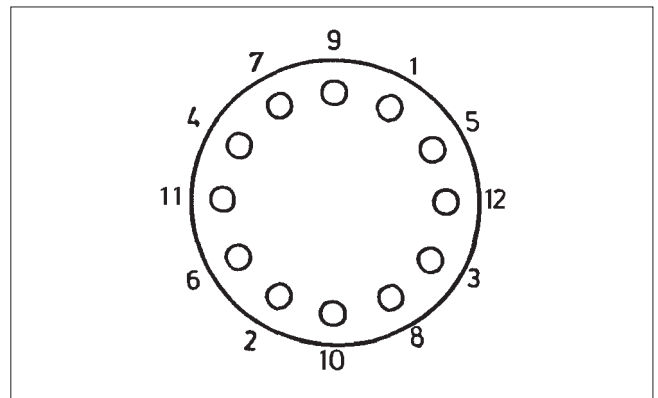

Fig. 21 Nut tightening order
- Tighten the bonnet nuts by using the torques given in Table 3. Tighten in the order shown in Fig. 21.